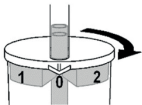

Abb. 2
- For normal suction, turn the vessel until the arrow on the lid points to an open position ("0") (Fig. 2)